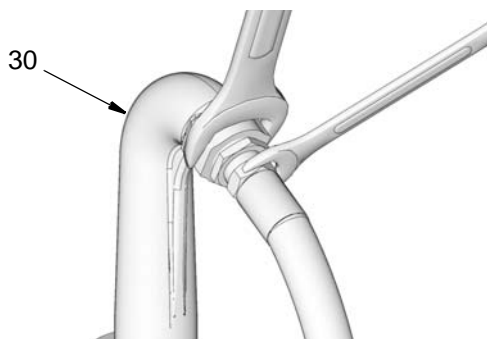

FIG. 65
9. Attach end of the hose to the outlet (30) using two wrenches on the flats, working in opposite directions, to securely tighten the hose to the outlet fitting (FIG. 65).